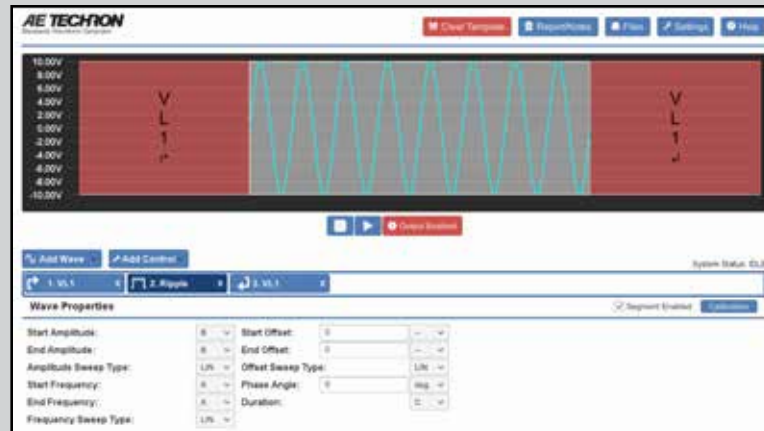

Figure 6.15 – Script VL Creation - Assign Variables
5. Select the waveform tab to open the waveform properties. Assign each variable from the csv file to the waveform properties, as required. See **Figure 6.15**.